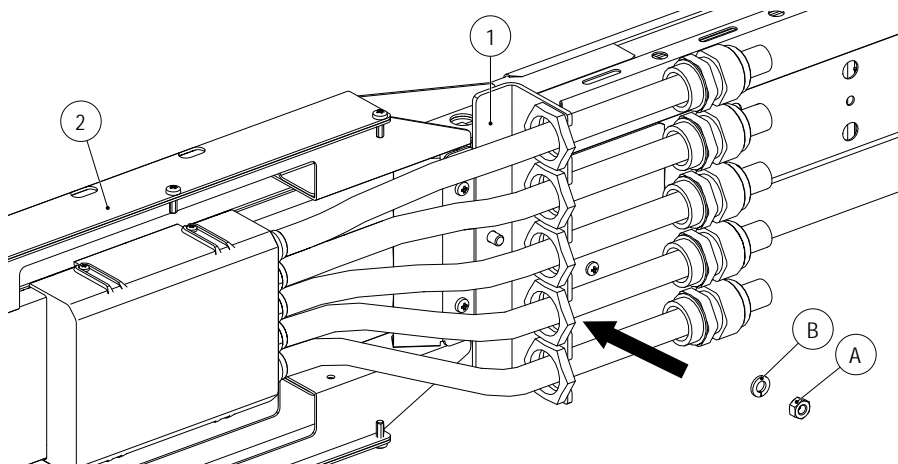

Fig. 75: Install strain relief plate (1)
- Tighten the strain relief plate (1) on the fastening frame with the hexagon nut (A) and the spring washer (B) using an open-end wrench SW10 (see Fig. 75).